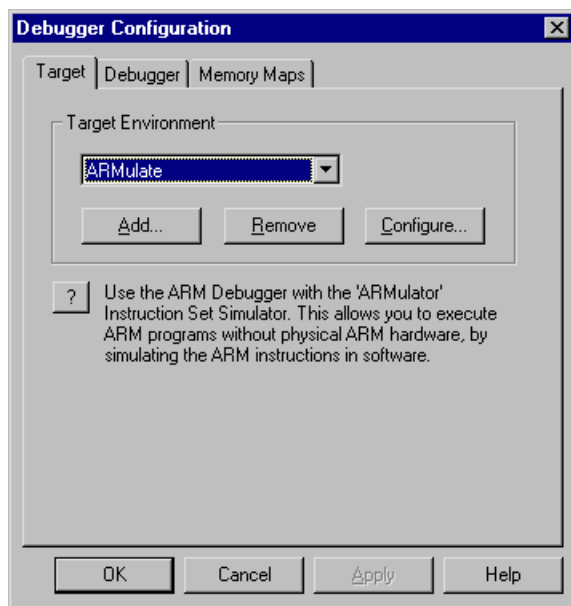

Figure 1 Debugger Configuration panel
2. Select **Configure Debugger...** from the **Options** menu. The Debugger Configuration panel is displayed (Figure 1).